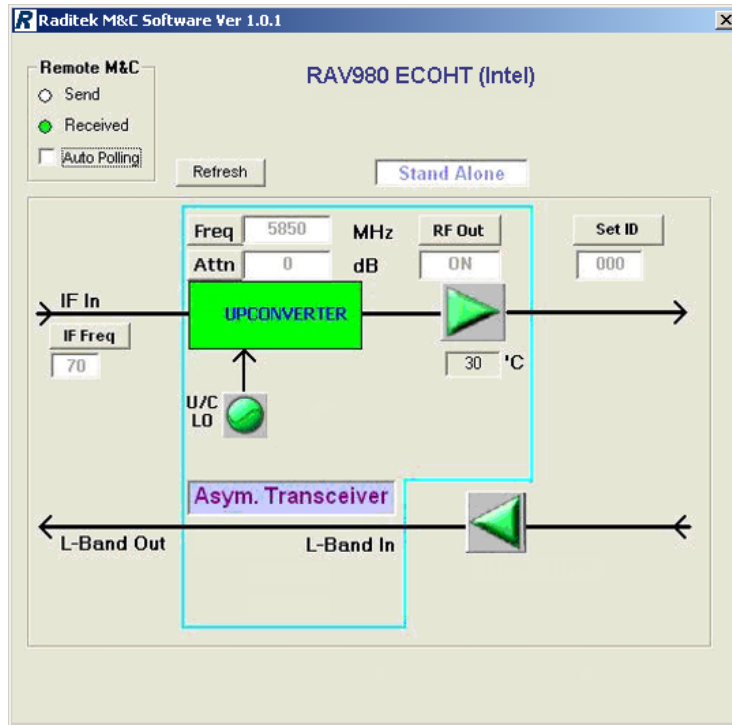

Figure 2-27: Main Display for Asymmetrical OHT
- Figure 2-22 to Figure 2-27 show Asymmetric model screens while